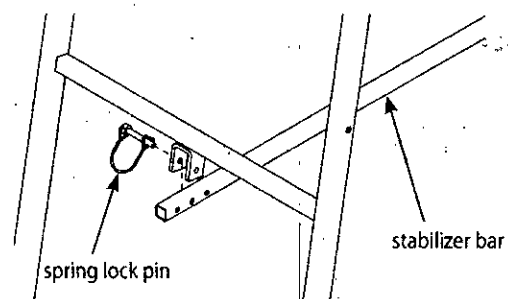

Figure 4
9. Attach the stabilizer bar (L17) to the second ladder section mounting bracket using (1) provided spring lock pin. Spring lock pin must be put in appropriate hole to achieve desired distance from tree. Adjustment in length may be needed when ladder is uprighted later in instructions. **SEE FIGURE 4.**